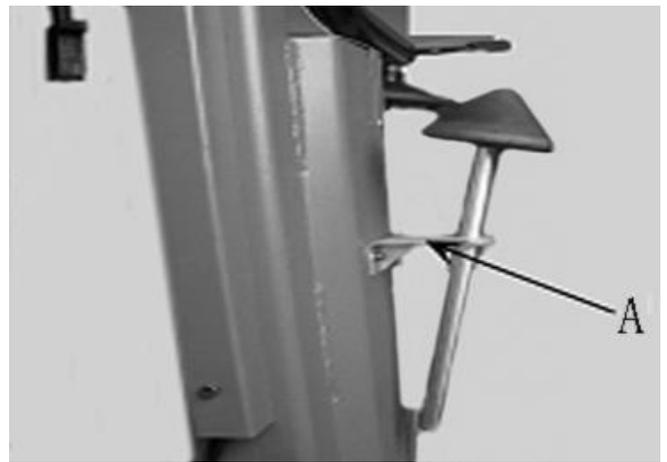

Fig 7-9
7.1.9 As fig7-9, fix the cone support on the body bracket and install the press cone on the bracket.